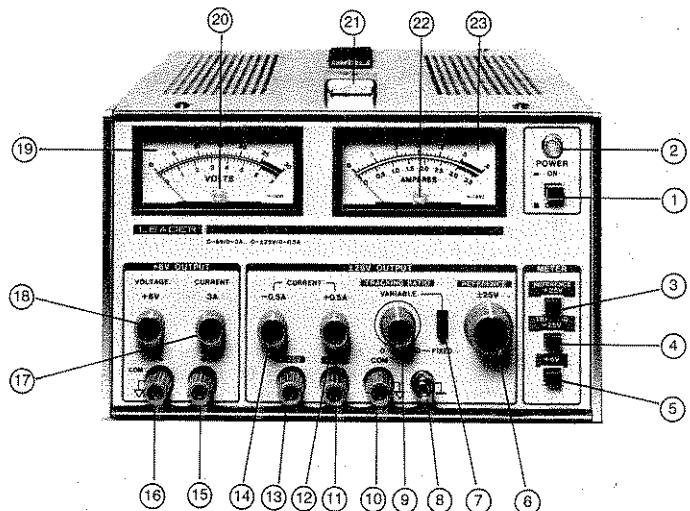

Figure 4-1. Front Panel
**Front Panel.** Refer to Figure 4-1.
- (1) POWER Switch Press to turn on power. Press again to release button and turn off power.
- (2) Pilot lamp Lights when power is on.
- (3) METER selector switches These switches assign the voltmeter and ammeter to one of the ranges. (3) is for the +25V source, (4) is for the -25V source, and (5) is for the +6V source.
- (4)
- (5)
- (6) REFERENCE/±25V Control This provides output voltage level setting for the +25V and -25V range sources.
- (7) TRACKING RATIO Selector Switch In the FIXED position, the REFERENCE/±25V control (6) sets both 25V sources to the same magnitude but opposite polarity. In the VARIABLE position, ratio tracking of the -25V source using the +25V source as a reference is possible.
- (8) Case ground terminal This terminal is connected directly to the case.
- (9) TRACKING RATIO Control This control determines the tracking ratio for the -25V source. When the TRACKING RATIO selector switch is in FIXED, this control is disabled.
- (10) COM terminal This is the common point for the +25V and -25V sources. This terminal is internally connected to COM terminal (16) for the 6V source.